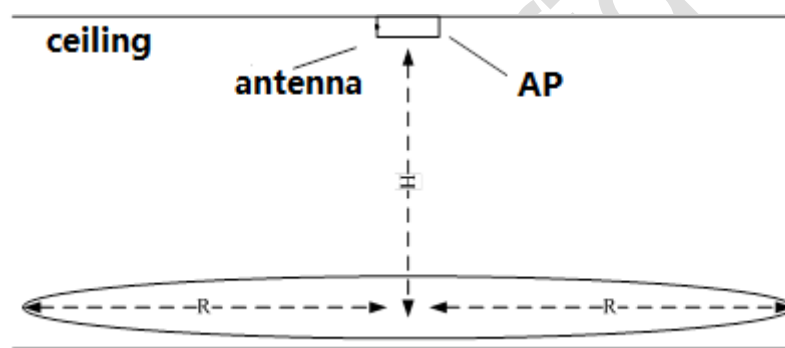

Figure 3-1 HS_C09978 installation
In actual use, HS_C09978 should be installed in a higher position to achieve better transmission and coverage. Moreover, the higher the installation height, the smaller the device spacing should be, as shown in Figure 3-1.
- When the shelf height is $\leq 3\text{m}$, **H** in Figure 3-1 is recommended to 3m ~ 5m, and the coverage radius **R** is 10 ~ 15m. It is recommended that the installation distance of two Hanshow APs is about 25m, and at least 5m.
- When the shelf height is 3 ~ 5m, **H** in Figure 3-1 is recommended to 5 ~ 8m, and the coverage radius **R** is 7 ~ 12m. It is recommended that the installation distance of two Hanshow APs is about 20m and at least 5m.